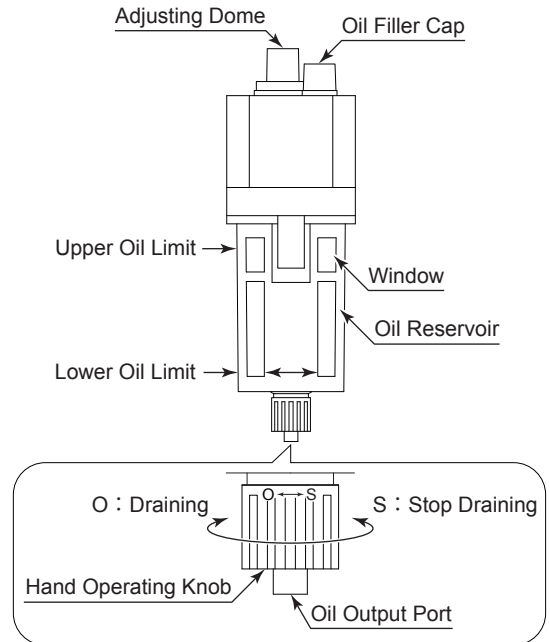

Fig. 4
8 - 3 Lubricator (Fig. 4)
(1) Oil Amount (Fig. 4)
(Supply Lubricating Oil to Upper Oil Level Limit of Fig. 4.)
(2) Replacing the Lubricating Oil and draining the water in the Lubricating Oil (Fig. 4)